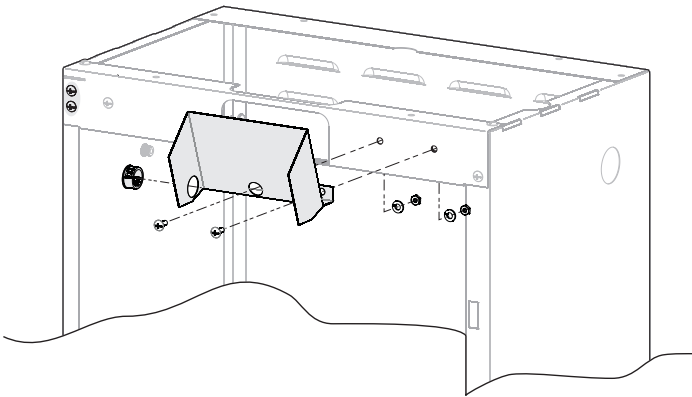

Figure 6
9. Secure Ignitor Heat Shield to the Stabilizing Bracket with two 1/4-20 x 3/4 screws, two lock washers and two nuts. Push snap-in grommet through the hole on the Ignitor Heat Shield. See Figure 6.
11. Use two 1/4-20 x 3/4 screws, two lock washers and two nuts to further secure the Left and Right Panels to the Rear Panel. See Figure 6.